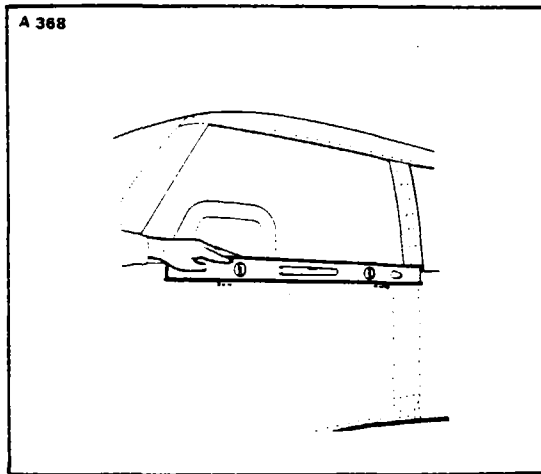

Figure 2-8. Leveling Longitudinally
- a. To longitudinally level the airplane, partially withdraw the two leveling screws located immediately below the left front side window. (Refer to Figure 2-8.) Place a spirit level on these screw heads and deflate the nose wheel tire or adjust the jacks until the bubble of the level is centered.